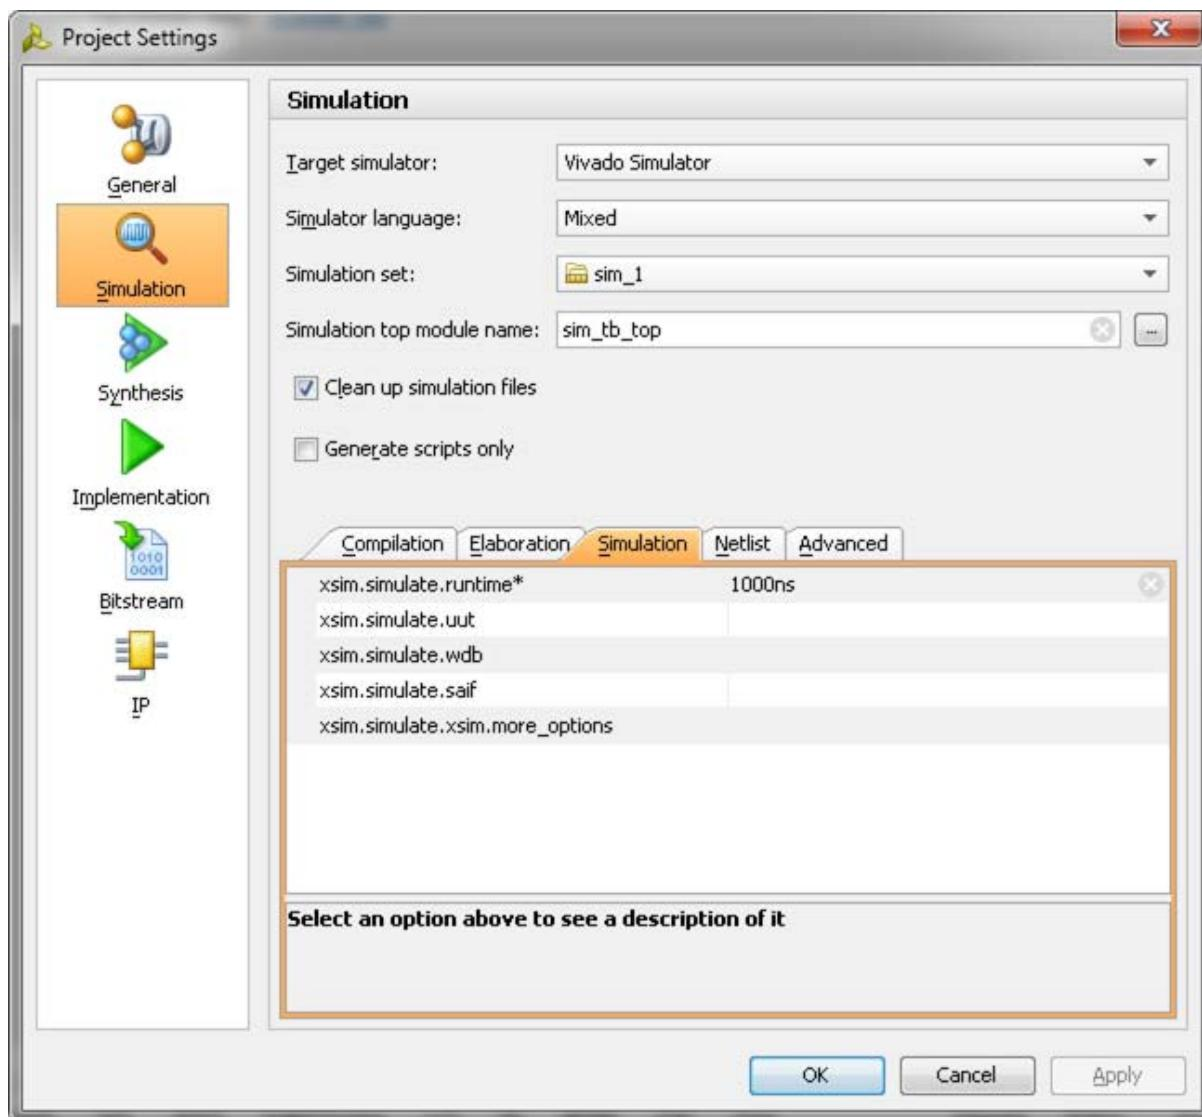

Figure 2-50: Simulation with Vivado Simulator
1. In the **Open IP Example Design** Vivado project, under **Flow Navigator**, select **Simulation Settings** (Figure 2-50).
- Under the **Simulation** tab as shown in Figure 2-50, set the `xsim.simulate.runtime` as 1 ms (there are simulation RTL directives which stop the simulation after certain period of time, which is less than 1 ms). Apply the settings and select **OK**.
- b. Under the **Simulation** tab, set the `modelsim.simulate.runtime` to 1 ms (there are simulation RTL directives which stop the simulation after certain period of time, which is less than 1 ms), set `modelsim.simulate.vsim.more_options` to `-novopt` as shown in Figure 2-50.